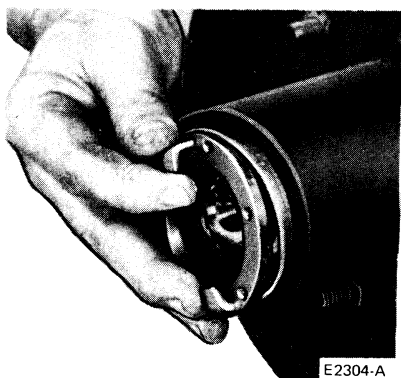

FIG. 12 Installing Cam Body Ring into the Clutch Retaining Ring
6. Install the actuating cam body ring into the outer clutch retaining ring. Assemble into hub (Fig. 12).